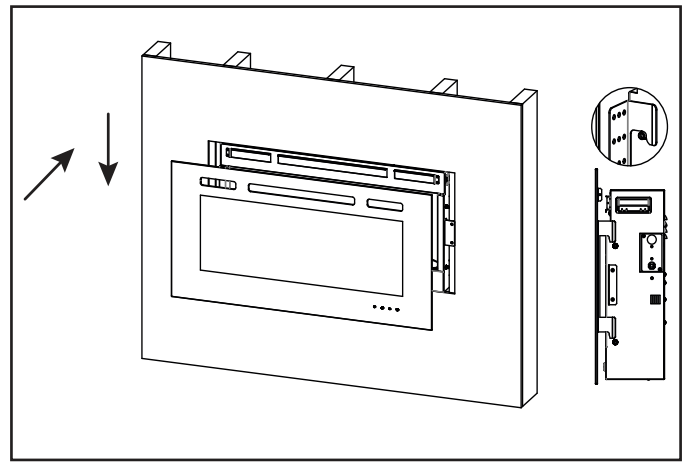

Figure 4.16 Glass Front Installation
2. Install front panel. Locate the J-hooks on the back side of the glass on the four shoulder bolts on the appliance opening. Engage the shoulder bolts. See Figure 4.16.